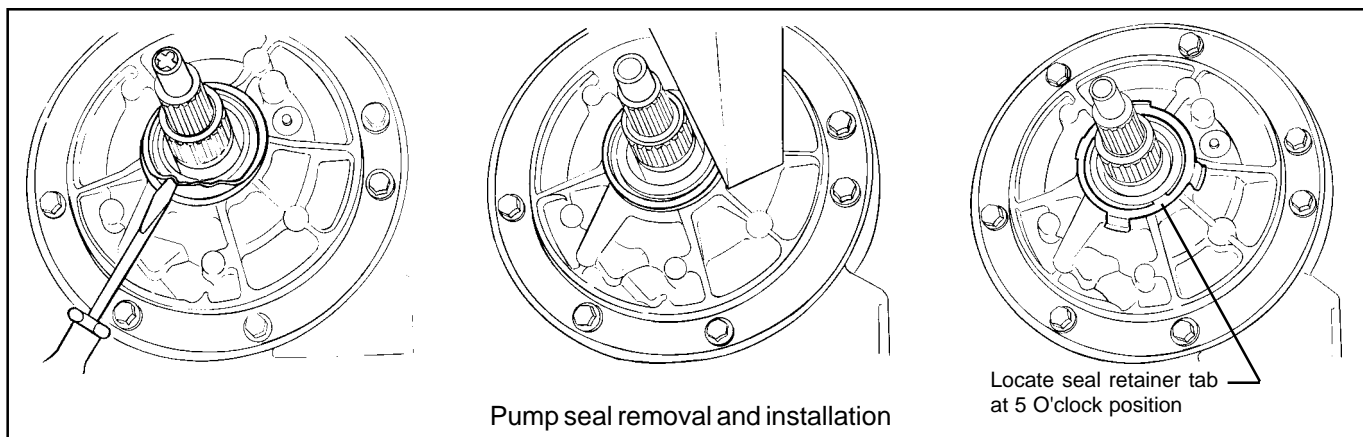

Fig. 4
alloy and can be easily damaged during seal removal. We recommend the following seal removal procedure to minimize the chance of damaging the pump housing, see (Fig. 4).
STEP 11. Coat the outer diameter of the new oil seal with "Loctite, 609" or "Permatex, Secures Gears" cylindrical retaining compound. Then using a small block of wood between the seal and hammer, carefully tap the seal evenly into the housing until fully seated. If the transmission was equipped with a seal retainer, install the retainer onto the housing as shown, see (Fig. 4).